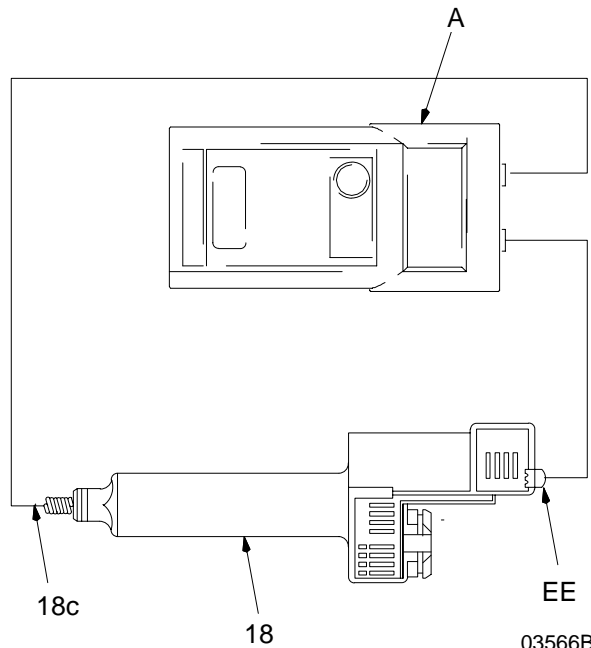

Fig. 8
Measure the resistance from the power supply's ground contact point (EE) to the contact spring (18c) on the other end of the power supply. See Fig. 8.